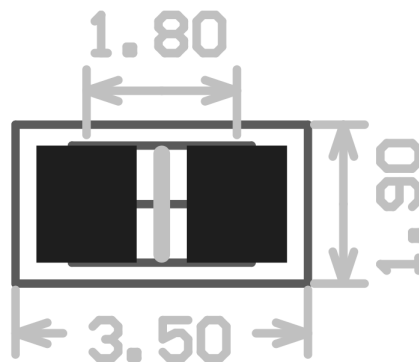

Figure 9: Component footprint with dimension in millimeters
- C_2 has footprint given with Fig. 9,